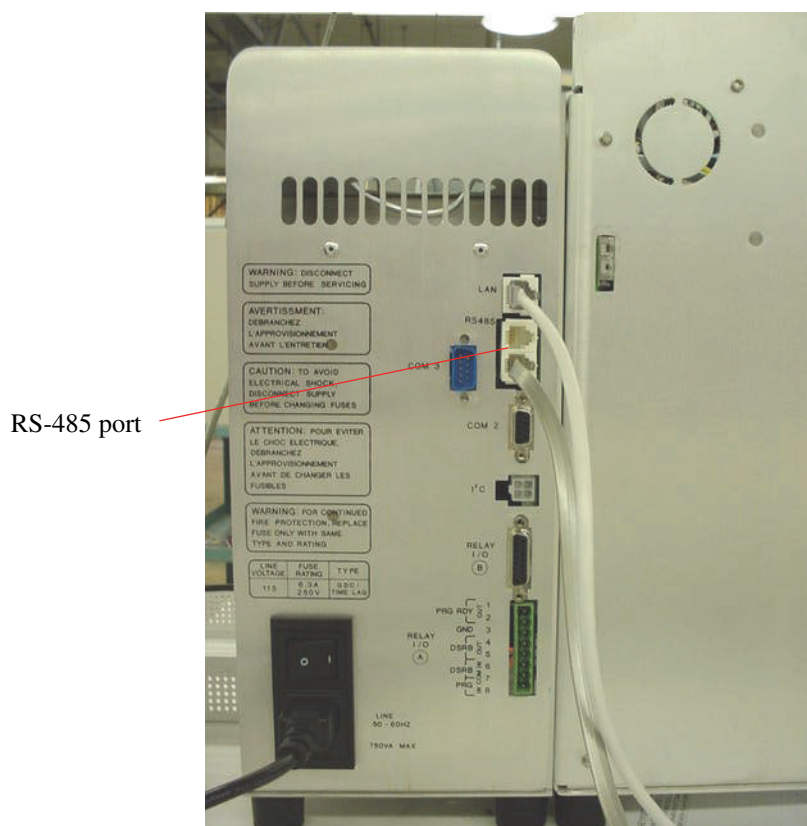

Figure 3.1. Aurora back panel electrical and communication connection ports
1. Connect the communications cable (PN 322310) to the COM port on the autosampler back panel. Connect the other end of the cable to one of the Aurora RS-485 ports on the back of the analyzer (Figure 3.1).